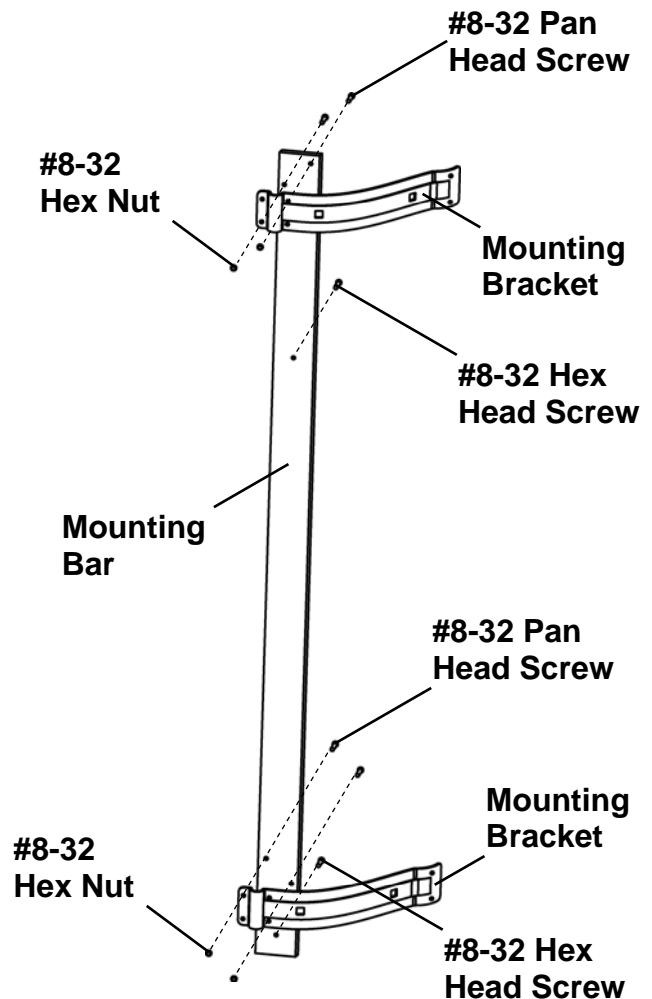

Figure No. 23
1. Referring to Figure No. 23, align a bracket with the holes near the top of the mounting bar and install two (2) #8-32x1/2" Pan Head screws and #8-32 Hex nuts to secure the bracket to the mounting bar.
2. Next, align the other bracket with the lower holes in the mounting bar and install two (2) #8-32x1/2" Pan Head screws and #8-32 Hex nuts to secure the bracket to the mounting bar.
3. Install the two (2) #8-32 Hex Head screws in the threaded holes in the mounting bar and tighten them with the included wrench until the hex heads are 1/8" from the bar